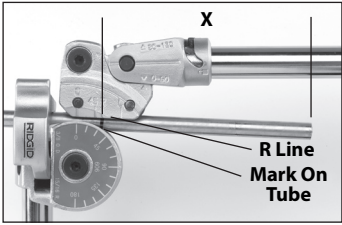

Figure 8 – Before
- If the feature is to the **RIGHT** of the mark (see Figure 8 – Before), align the mark on the tube with the "R" line on the Carriage.